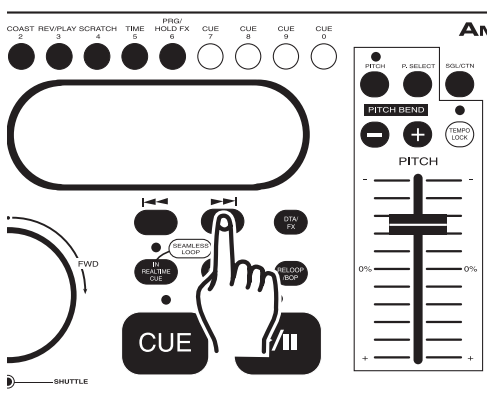

Figure 28
- 7) When you have finished programming and are ready to begin playback simply press the PLAY/PAUSE BUTTON (29) and your program will begin to play.
- 9) To cancel and clear the program press and hold down the DTA/FX(22) and PRG/HOLD FX (13) for more than two seconds (see figure 28).